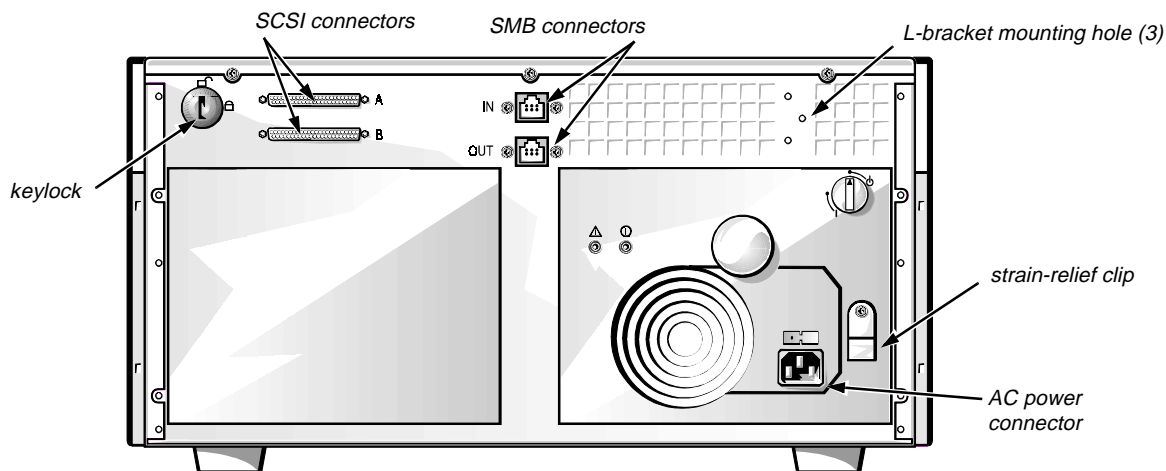

Figure 2-15. Storage System Back-Panel Features
Secure the bracket by installing three 8-32 x 0.313 Phillips-head screws in the corresponding mounting holes in the storage system back panel (see Figure 2-15).
- If you are operating the storage system in a parallel-backplane (1 x 8) configuration, connect the external SCSI cable supplied with the storage system between SCSI connector A on the back panel of the storage system (see Figure 2-15) and the SCSI host adapter card in the host computer. Then skip to step 4.
3. **Connect the two SCSI cables supplied with the storage system to the SCSI connectors on the storage system’s back panel (see Figure 2-15) and to the SCSI host adapter(s) in the host computer.**
4. **Connect one end of the SMB cable (supplied with the storage system) to the SMB connector labeled “OUT” on the storage system’s back panel (see Figure 2-15).**
- If you are connecting only one storage system to the host computer, connect the SMB cable to the SMB connector on the host computer’s back panel (see Figure 2-15).
6. Connect the storage system power cable to an alternating current (AC) power source.
When connecting the power cable to the storage system, ensure that the power cable is secured by the plastic strain-relief clip on the power supply (see Figure 2-15).